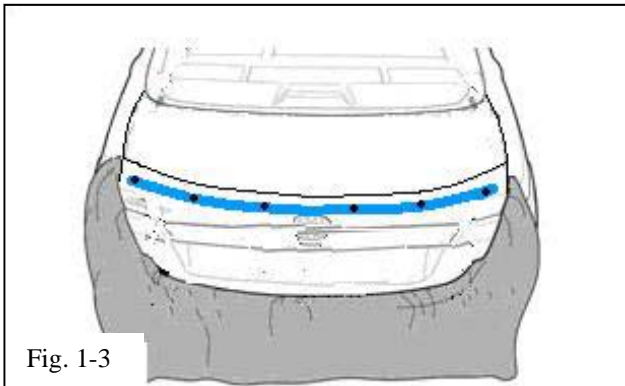

Fig. 1-3
-  (d) Apply masking tape to the trunk lid surface in the areas where the six (6) mounting holes will be drilled (Fig. 1-3). Two inch wide blue painters masking tape is recommended.